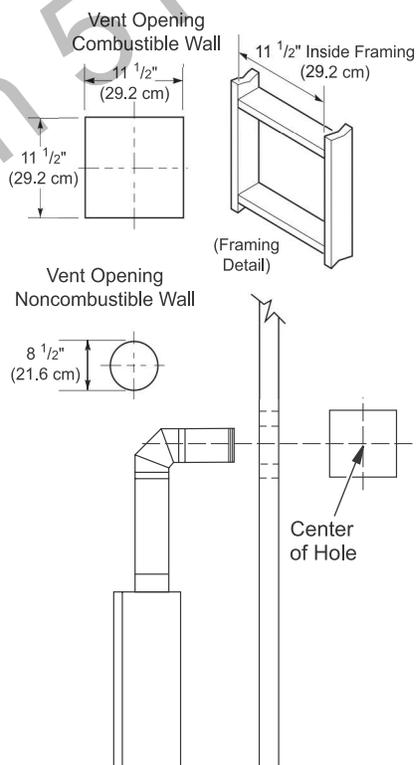
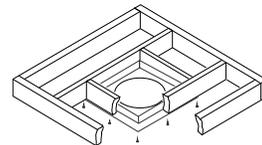

Figure 12 - Vent Opening Requirements
Figure 28 - Installing Firestop
5. Carefully determine location where vent pipe assembly will penetrate outside wall. Center of hole should line up with center line of horizontal vent pipe. Mark wall for a 11 1/2" x 11 1/2" square hole. Cut and frame square hole in exterior wall where vent will be terminated. If wall being penetrated is constructed of noncombustible material, such as masonry block or concrete, a 8 1/2" hole with zero clearance is acceptable (see Figure 12).
1. Cut a 11 1/2" square hole in ceiling using locating hole as a center point. The opening should be framed to 11 1/2" x 11 1/2" (292 mm x 292 mm) inside dimensions, as shown in Figure 12 on page 11 using framing lumber the same size as ceiling joists. If area above ceiling is an insulated ceiling or an attic, nail firestop from top side. This prevents loose insulation from falling into required clearance space. If area above ceiling is a living space, install firestop below framed hole. Firestop should be installed with no less than three nails per side (see Figure 28).